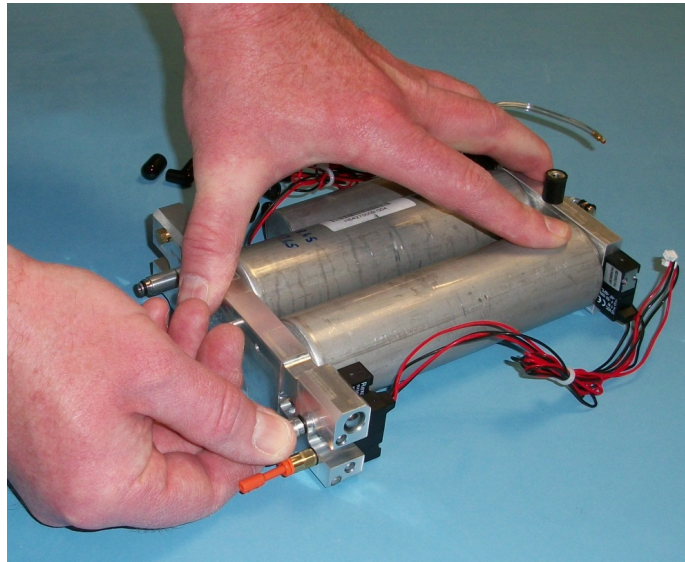

Figure 5.20
4. If either of the two fittings connecting the compressor to the manifold is connected to the compressor, remove it and insert it into the manifold. (See Figure 5.20.)